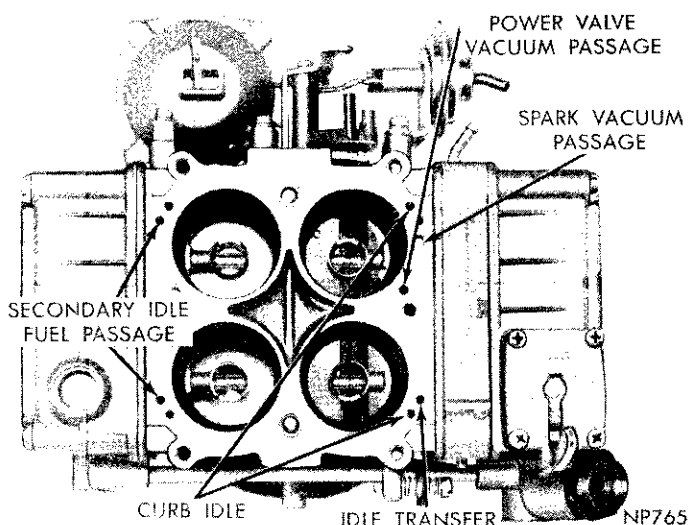

Fig. 13—Main Body Identification (Bottom View)
(1) Place a new gasket on throttle body, then lower main body (Fig. 13) down on throttle body, aligning roll pin guides with openings in main body. Be sure primary bores of throttle body are on the same side as primary venturi.
(2) Holding assembly together, invert assembly and install attaching screws. Tighten securely.
(3) Install balance tube into main body and install new "O" rings and washers at each end. Be sure "O" rings are seated in recesses, followed by washers.